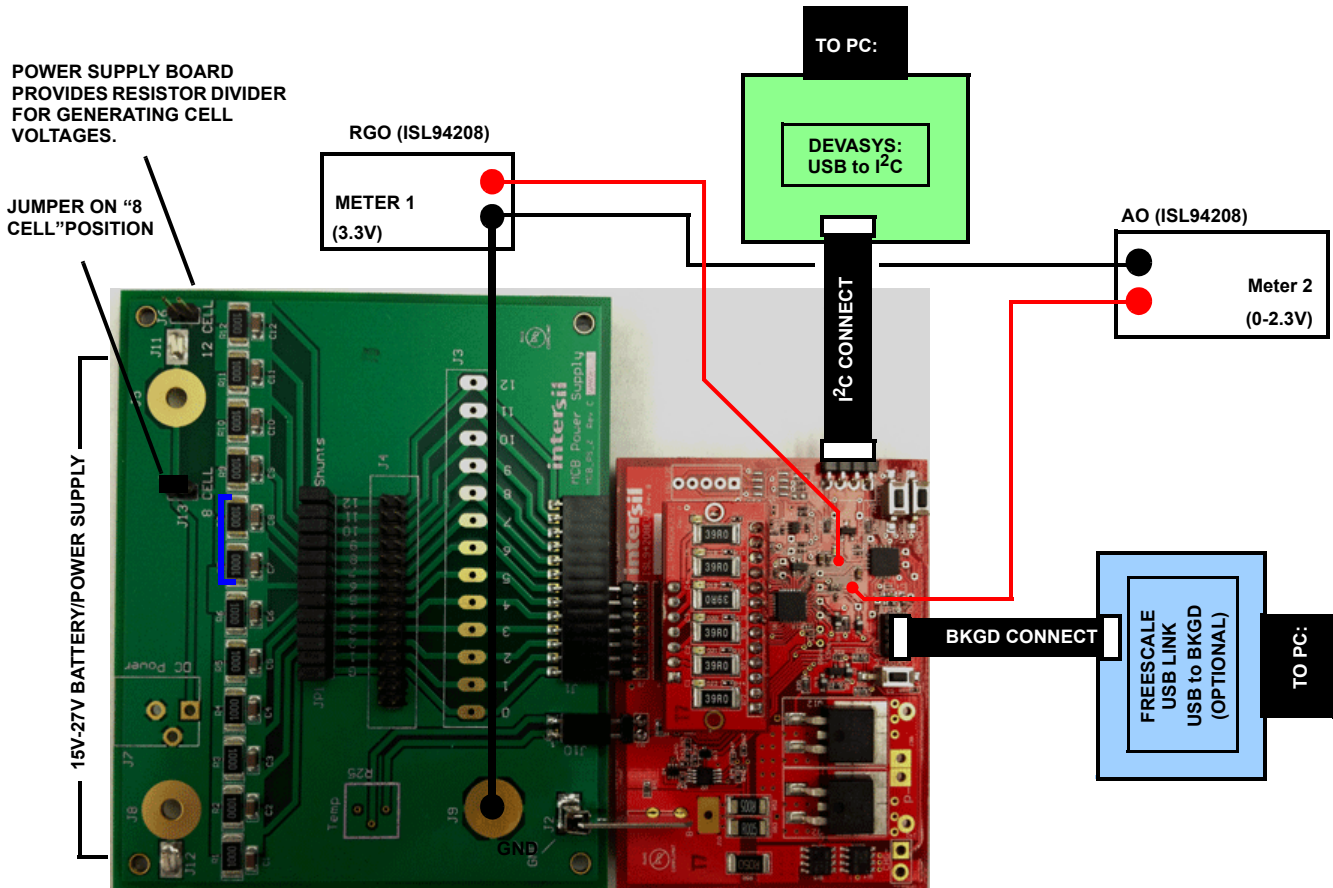
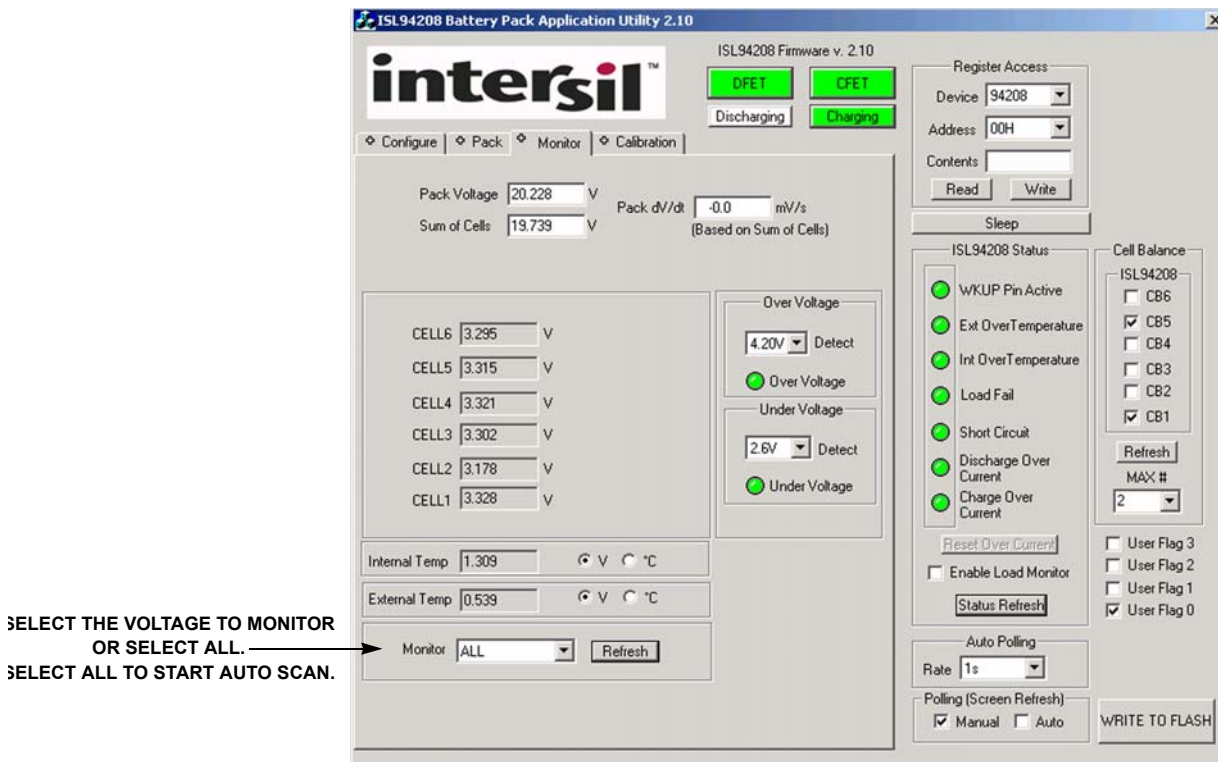

FIGURE 4. ISL94208EVZ EVALUATION BOARD TEST CONNECTION
FIGURE 6. ISL94208 GUI MONITOR TAB
- Figure 4 shows a green board is connects between a power supply and the evaluation board. This multi-option board supports the connection a single power supply (using an on-board resistor divider), or separate power supplies for each input, or battery cells.
- Before connecting the PC to the ISL94208EVZ board (through the USB to I²C interface) turn off the power supply and then plug the ISL94208EVZ board into the power supply board as shown in Figure 4.
In normal operation, the cell voltages are scanned four times per second. If monitoring the AO voltage (as shown in Figure 4), the meter will not be stable, since it sees an output of a series of voltages. A scope can be used to monitor the AO output, or use the GUI to select a specific voltage or temperature. This operation by the GUI stops the microcontroller from automatically scanning the voltages and puts the selected voltage on AO constantly. Automatic scanning will not start again until the GUI selects Monitor "All" (see Figure 6).